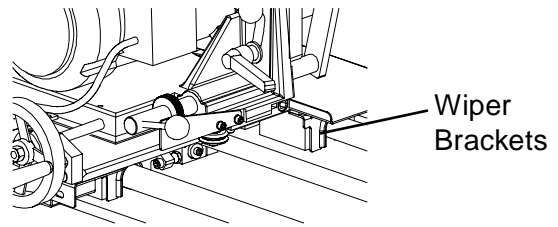

FIG. 8
2. Remove the two rail wiper brackets from the bearings located toward the tooling bar -two screws each. (See Fig. 8)